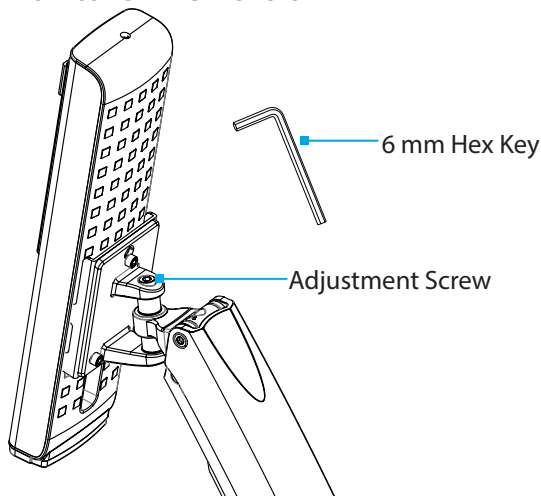

Figure 29
- Use the **Adjustment Screw** located on the swivel point of the **Monitor Arm**, to increase or decrease the **Swivel** effort. (Figure 29)